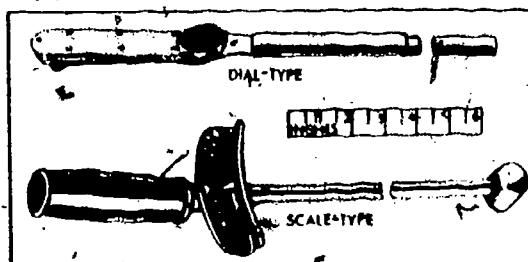

Fig 1-25. Torque wrenches.
a. Torque wrench (fig 1-25). A nut or bolt will take only a specific amount of torque before it will break, stretch, or pull the threads. To control the amount of torque, use a torque wrench which measures torque in pound-inches or pound-feet. The amount of torque required will be found in the TM for the item of equipment. The amount of torque for each bolt will not be found in the TM, but the critical components are parts such as cylinder heads, manifolds, spark plugs for some engines, and injectors are listed. For nuts and bolts not listed you must use your own judgment and learn from experience. After removing broken bolts from the same hole about six times, it should be evident that you are using too much force. The size of a bolt and the number of threads per inch help determine the amount of torque it will take. Figure 1-26 lists the average torque required for different-size bolts and nuts. Like all precision tools, the torque